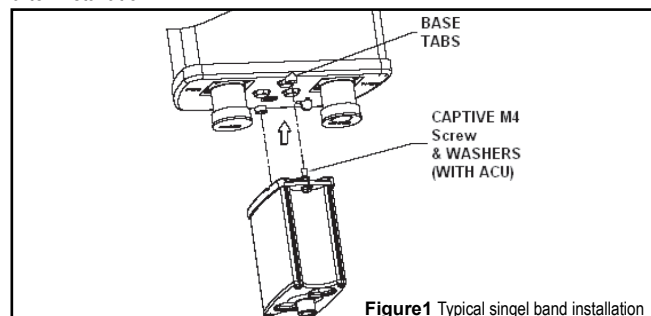

Figure1 Typical single band installation
3. Attach the ACU onto the antennas as shown in **figure 1**.